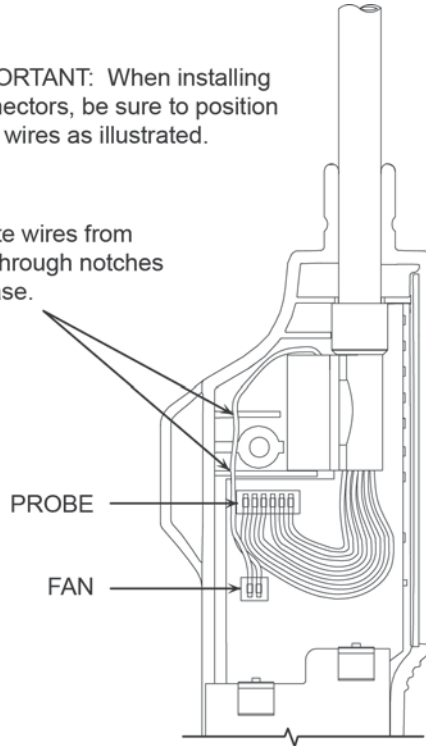

Figure 8. Connector Locations on Printed Circuit Board
7. Plug both the probe and fan connectors onto their respective header holes on the printed circuit board as shown in Figure 8.
8. Position the probe assembly between the two case halves, routing the fan wires through the notches in the case as shown in Figure 8. Then reassemble the case; push on the front retaining collar; screw on the probe tip; and reinstall the batteries.
Instrument does not turn on.	<ul style="list-style-type: none"> a. Batteries are dead or installed backward. Install four fresh 'AA' alkaline batteries per Section Battery Installation. b. Possible faulty refrigerant sensor. <ul style="list-style-type: none"> -Remove refrigerant sensor and turn on detector. If detector now turns on, and after warm-up shows a bad sensor (see sensor failure indication below), replace sensor per Section Sensor Replacement. c. Loose printed circuit board connector. Disassemble detector and ensure that all connectors are securely attached to the printed circuit board. See Figure 8.
Erratic gas indication.	a. Sensor faulty. Replace sensor per Section Sensor Replacement . b. Loose sensor. Unscrew probe tip and ensure that sensor is being held firmly in socket. c. Loose printed circuit board connector. Disassemble detector and ensure that all connectors are securely attached to the printed circuit board. See Figure 8.